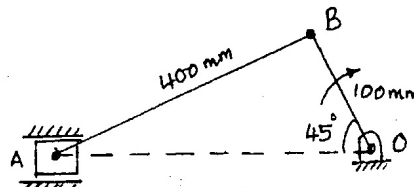

Fig.Q.3.C.
c. Locate all the instantaneous centres of the slider crank mechanism as shown in Fig. Q.3.c. The length of crank OB and connecting rod AB are 100 mm and 400 mm respectively. If the crank rotates clockwise with an angular velocity of 10 rad/s, Find ; 10